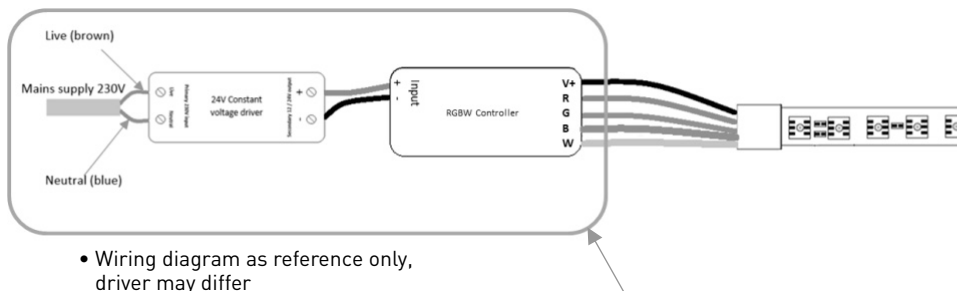

Fig 2
- From the secondary side of the driver connect a red and black cable to the input side of the RGBW controller ensuring correct polarity is observed (+ Red) (- Black) (see Fig 2)
- Terminate cables from the RGBW strip to the RGBW controller (clear to V+) (green to G) (red to R) (yellow to W) (blue to B) (See Fig 2)